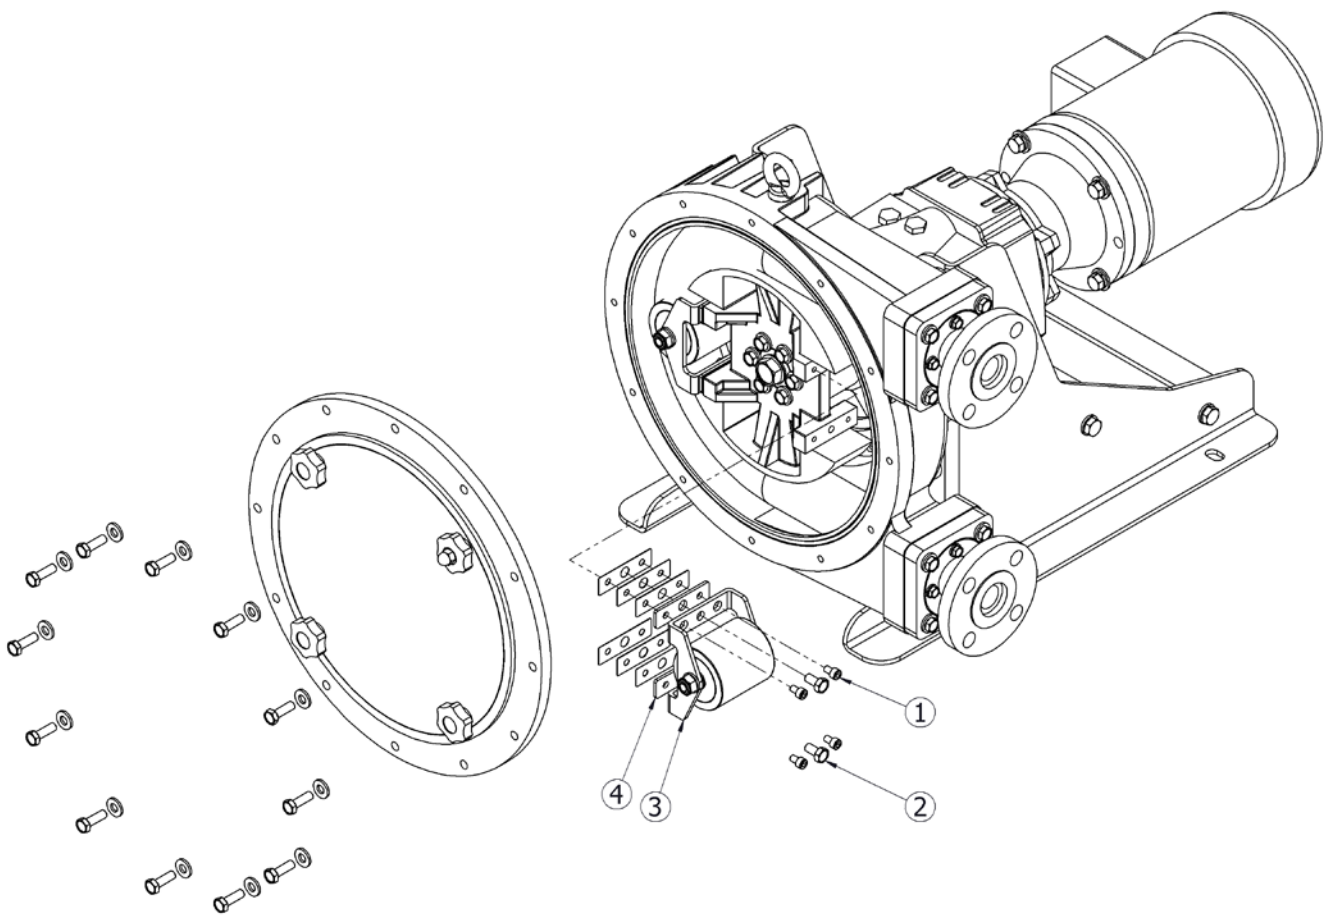

Figure 5- FMP Shimming
5. Refer to Figure 5 for item identification. Remove the front cover (Item 4) and hardware (Item 5) to access the inside of the pump, continuing to follow safety precautions as appropriate.